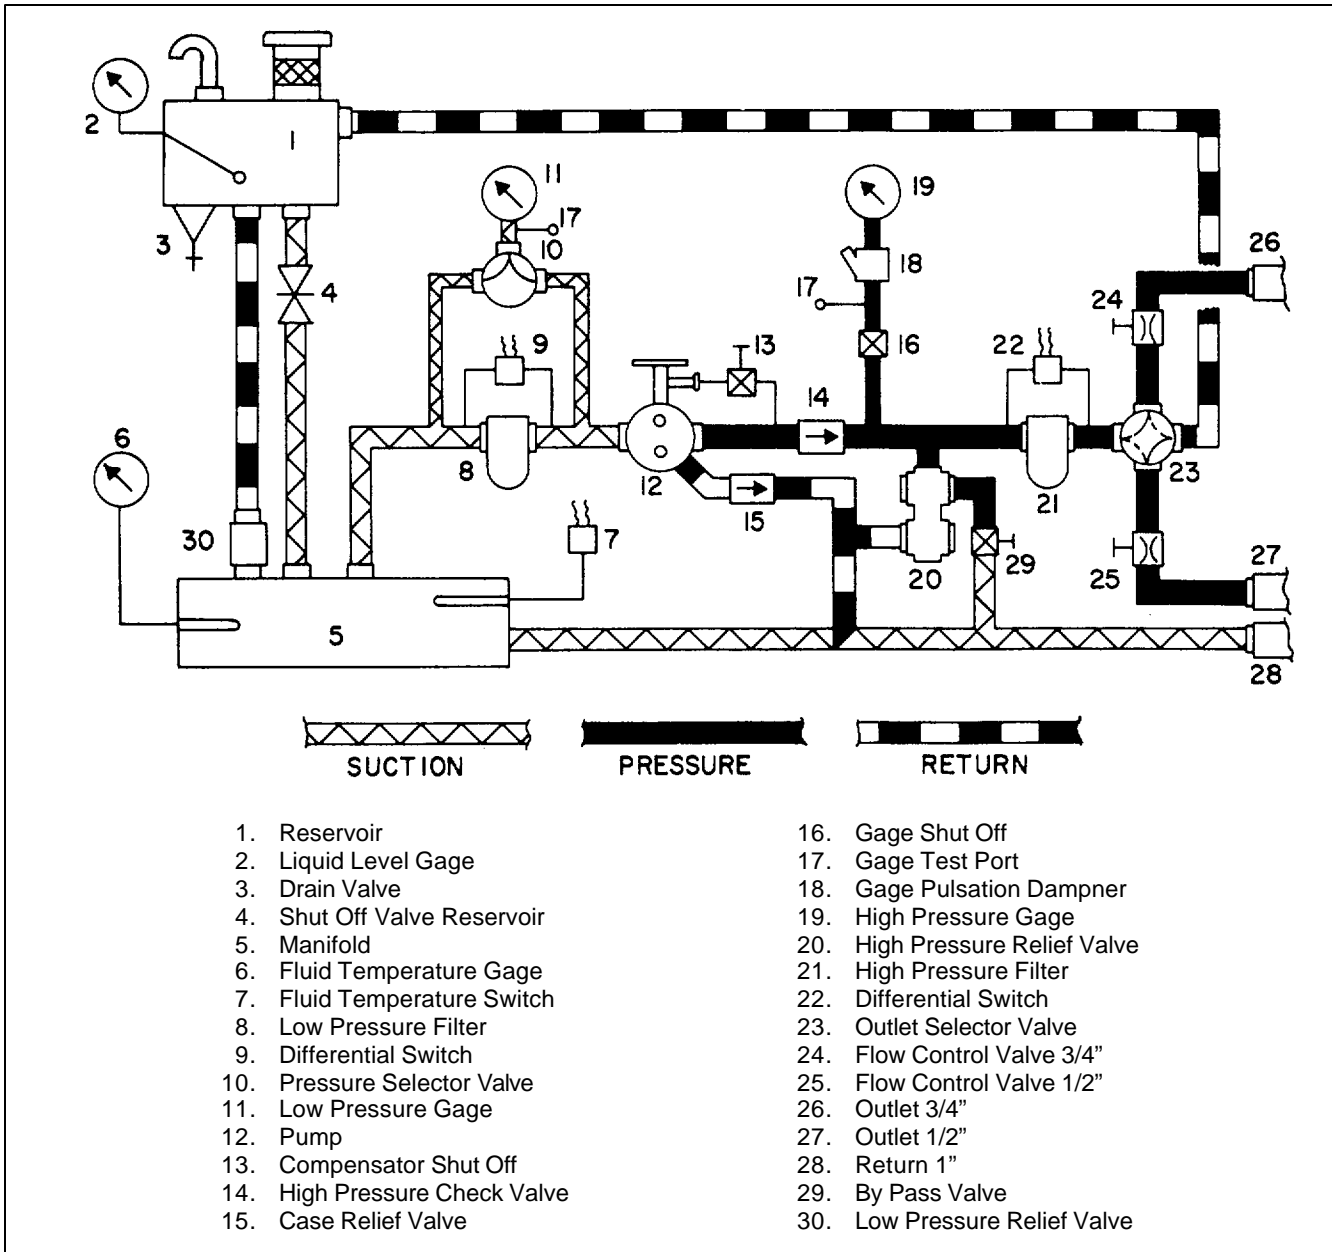

Figure 1-6. Hydraulic System Schematic
1-18. SIMPLIFIED PRINCIPLES OF OPERATION. (Refer to hydraulic schematic, figure 1-6.) The hydraulic fluid may be taken from either the Test Stand reservoir (1) or the reservoir in the aircraft being tested through the suction inlet. The hydraulic fluid thus obtained is then forced under pressure by the high pressure pump (12) through checkvalve (14), high pressure filter (12), relief valve (20), and a four-way outlet selector valve (23) to the selected pressure outlet (26 or 27)